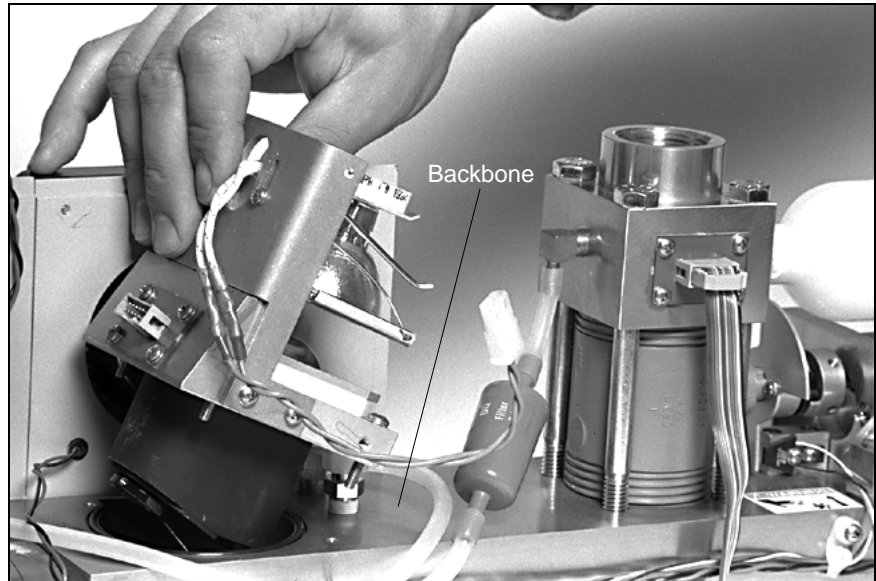

Figure 8-28
- c. Using one hand to support the backscatter shutter from below, use the other hand to *carefully* remove the lamp base assembly, angling the assembly as you pull it out of the sensor body (Figure 8-28).